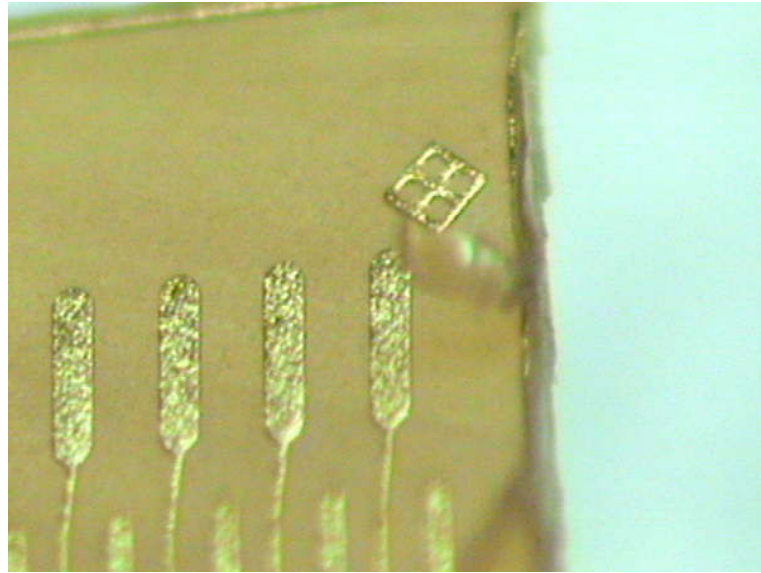

Figure 3: Careful cutting of the pitch adaptors is necessary in order to avoid leaving conductive strands that can short the wire bonding.
- 4) Using the designated curved-blade scissors, cut the two small retaining tabs on each pitch adaptor, leaving some of the tab attached to the pitch adaptor. The tabs are then completely removed by making a second cut. Care should be taken to make clean cuts to avoid leaving strands as shown in Figure 3.